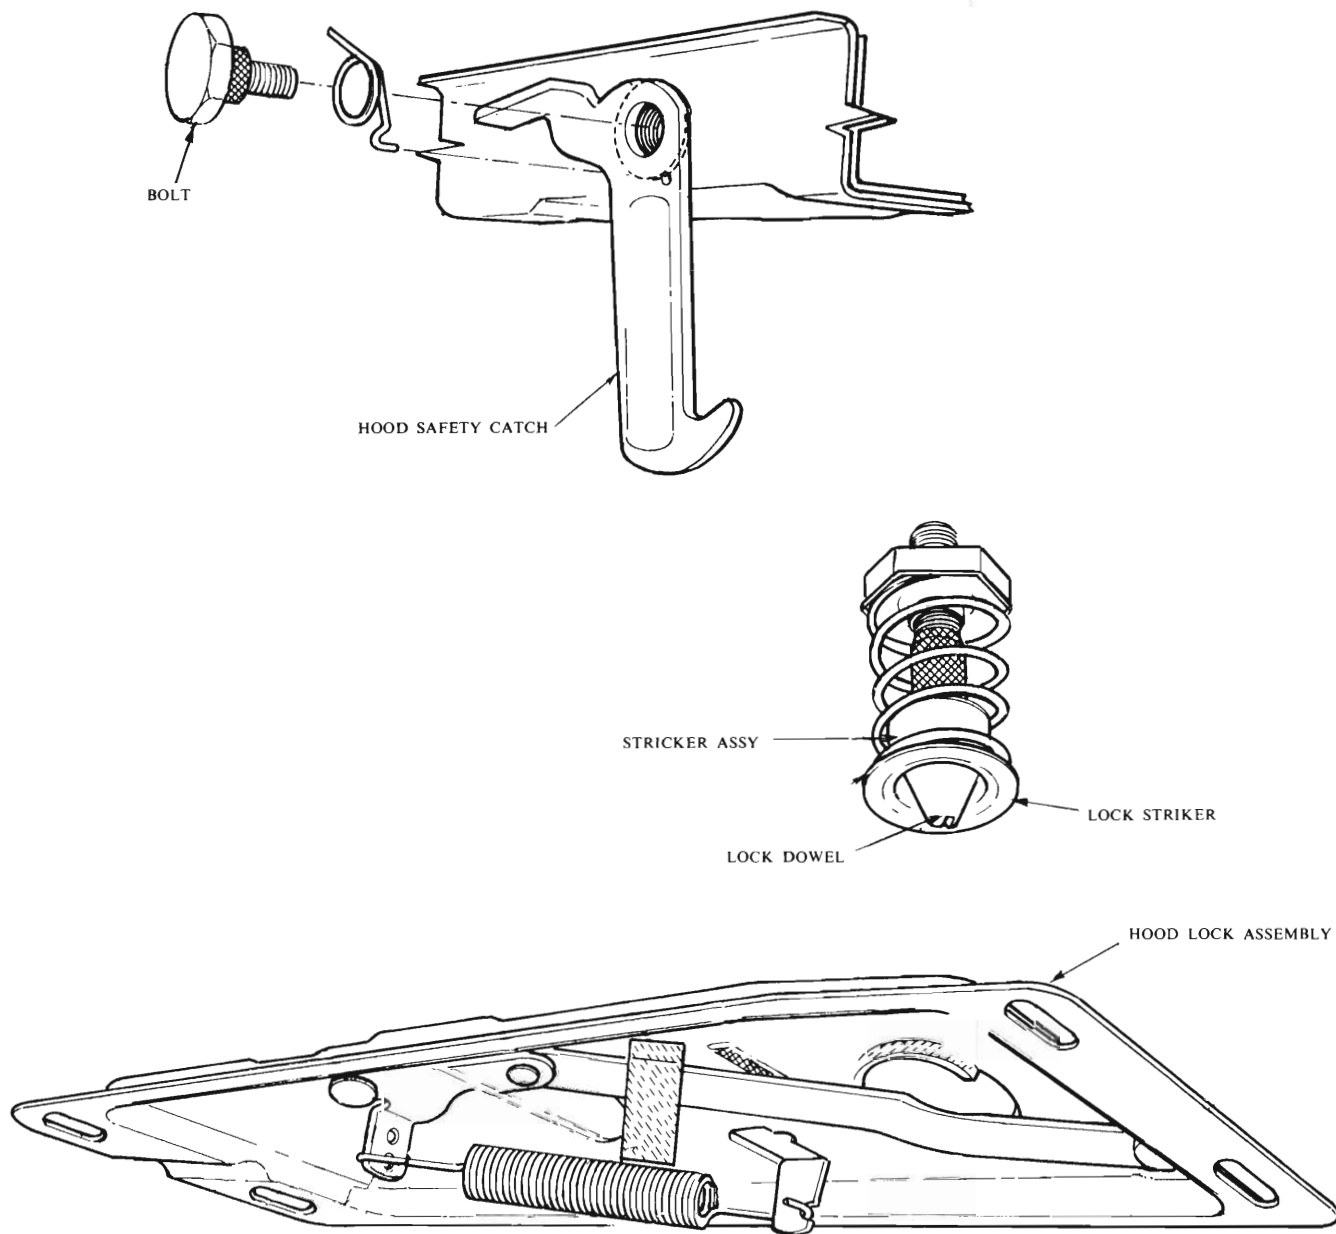

Fig. 18 - Hood lock assembly
(1) The hood lock is mounted on an extension just above the radiator grille. The hood striker is mounted on the forward edge of the hood (Fig. 18) and is released by an internal catch which is operated from within the vehicle by a pull release cable.
(2) The hood lock has elongated bolt holes to allow for adjustment. To adjust the hood, loosen the hood lock retaining bolts and move the hood lock as required to align it with the striker.
(3) Tighten the lock retaining bolts, open and close the hood several times to ensure that the hood is latching securely.